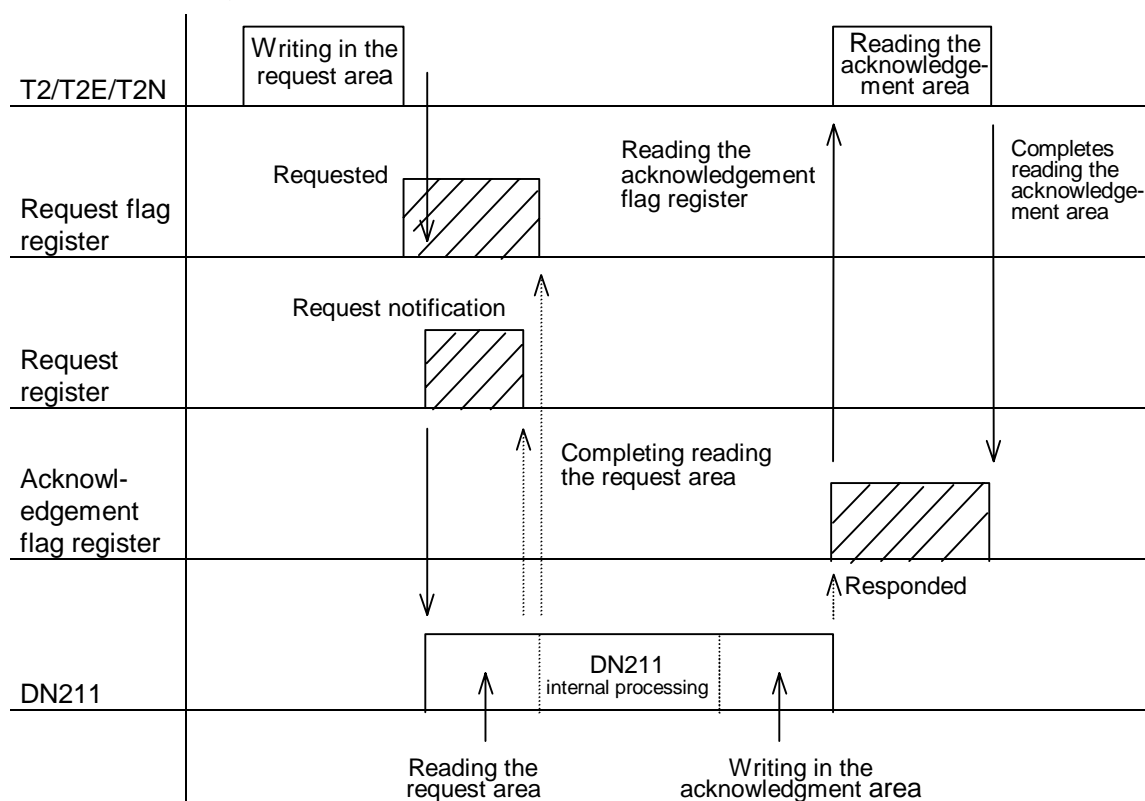

Figure 4.10 How to Use the Semaphore Area on Requests
(6) How to Use the Semaphore Area
Figure 4.10 illustrates the usage of the areas and registers discussed at (1) to (5).